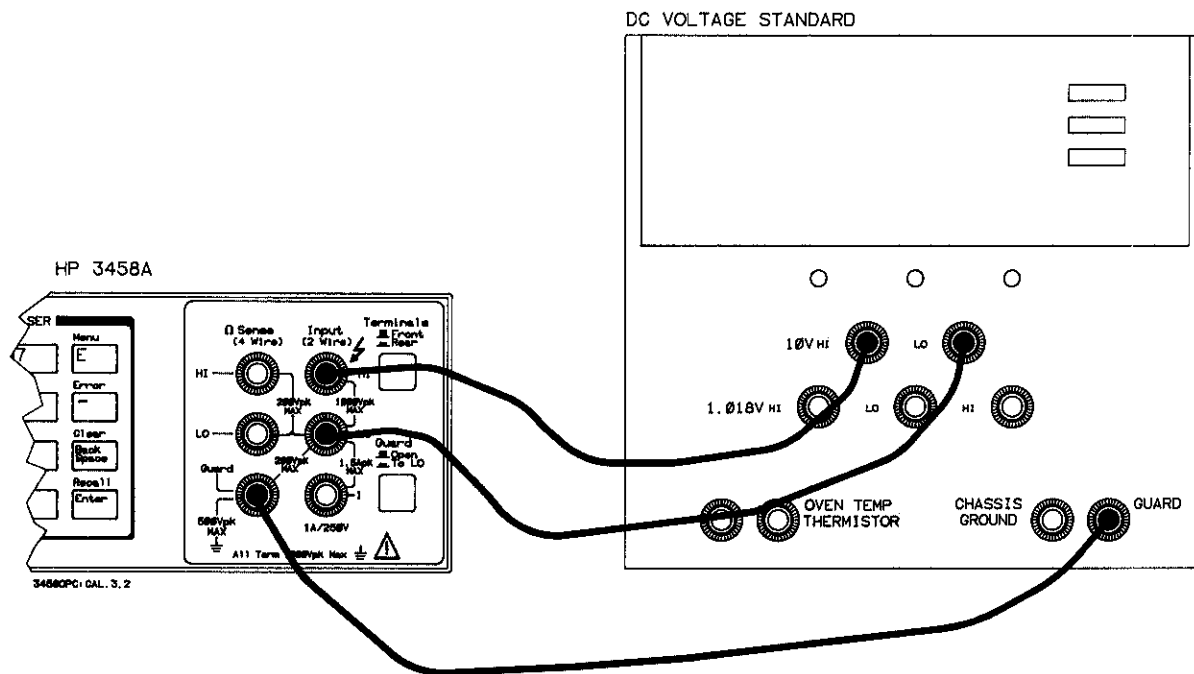
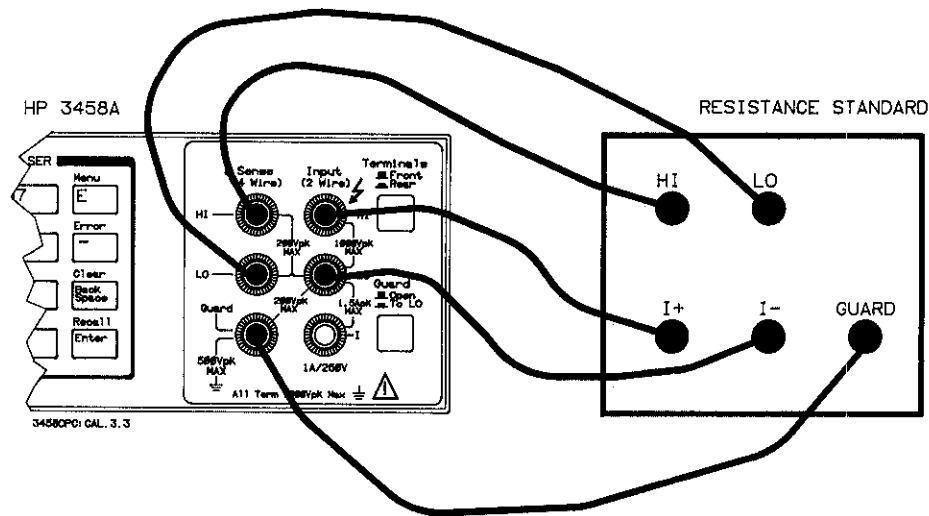

Figure 3-2. DC Gain Adjustment Connections
Figure 3-3. Resistance and DC Current Adjustment Connections
3. Connect the voltage standard to the multimeter's front panel **HI** and **LO** input terminals as shown in Figure 3-2. If using a **Guard** wire (as shown in Figure 3-2), set the **Guard** switch to the **Open** position. If not using a **Guard** wire, set the **Guard** switch to the **To LO** position.
4. Connect the resistance standard to the multimeter's front panel **HI** and **LO** **Input** and **HI** and **LO** **Sense** terminals as shown in Figure 3-3. If using a **Guard** wire (as shown in Figure 3-2), set the **Guard** switch to the **Open** position. If not using a **Guard** wire, set the **Guard** switch to the **To LO** position.